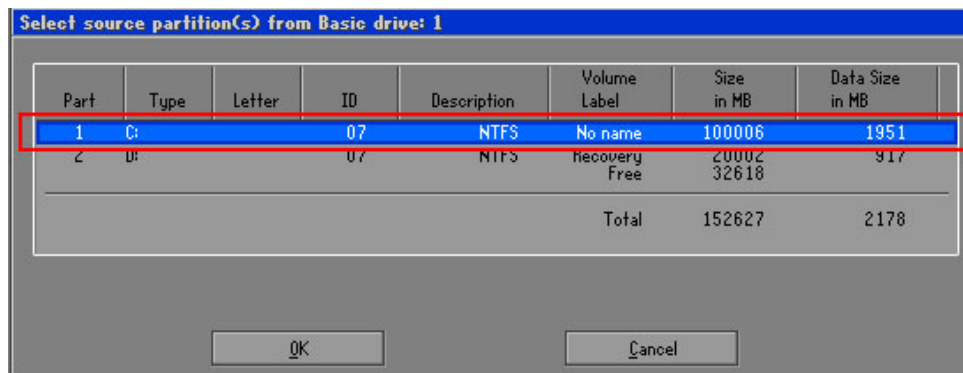

Figure C-12: Select a Source Partition from Basic Drive
Step 6: Select a source partition from basic drive as shown in Figure C-12. Then click OK.